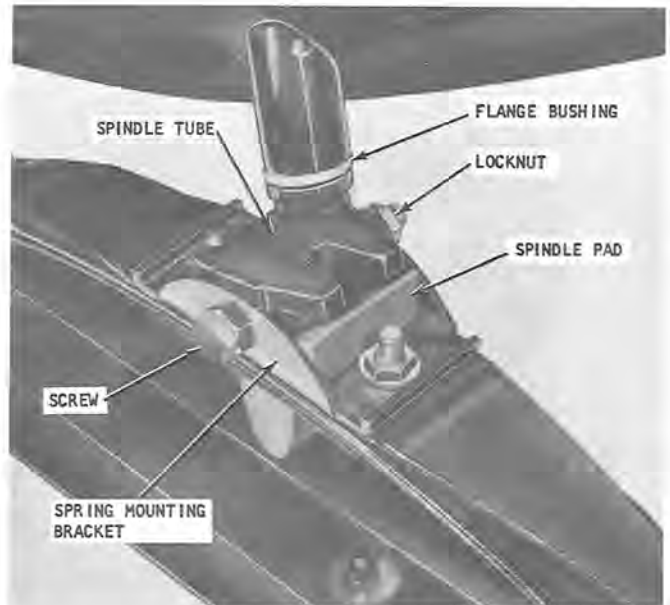

Figure 1
- Remove the locknut and screw at the spring mounting bracket (figure 1).
spindle tube assembly as shown in figure 1. Apply 30 foot-pounds torque to the locknut. Do not over-tighten bolt as the ski assembly should float freely on the spindle.